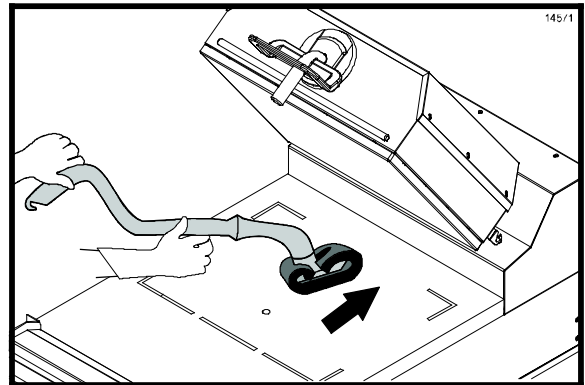

Figure 33
24. Spread a light coating of the grill cleaner over the entire lower grill surface, using front to back strokes. **Do not scrub while applying product.** (See Figure 33.)